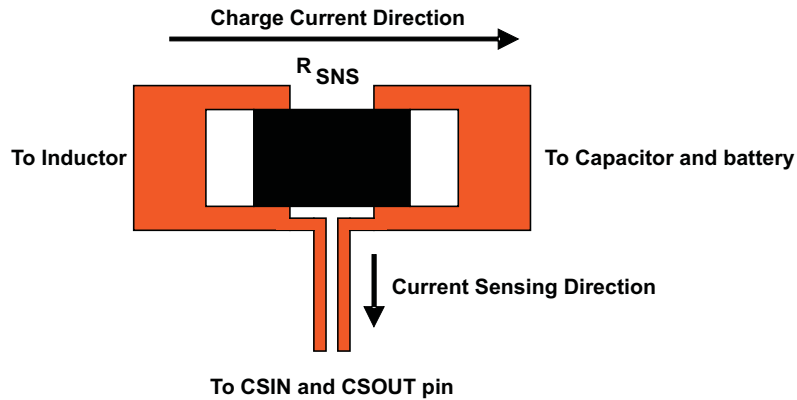

Figure 38. Sensing Resistor PCB Layout
- To obtain optimal performance, the power input capacitors, connected from input to PGND, should be placed as close as possible to the pin. The output inductor should be placed close to the IC and the output capacitor connected between the inductor and PGND of the IC. The intent is to minimize the current path loop area from the SW pin through the LC filter and back to the PGND pin. To prevent high frequency oscillation problems, proper layout to minimize high frequency current path loop is critical (see Figure 37). The sense resistor should be adjacent to the junction of the inductor and output capacitor. Route the sense leads connected across the RSNS back to the IC, close to each other (minimize loop area) or on top of each other on adjacent layers (do not route the sense leads through a high-current path, see Figure 38).